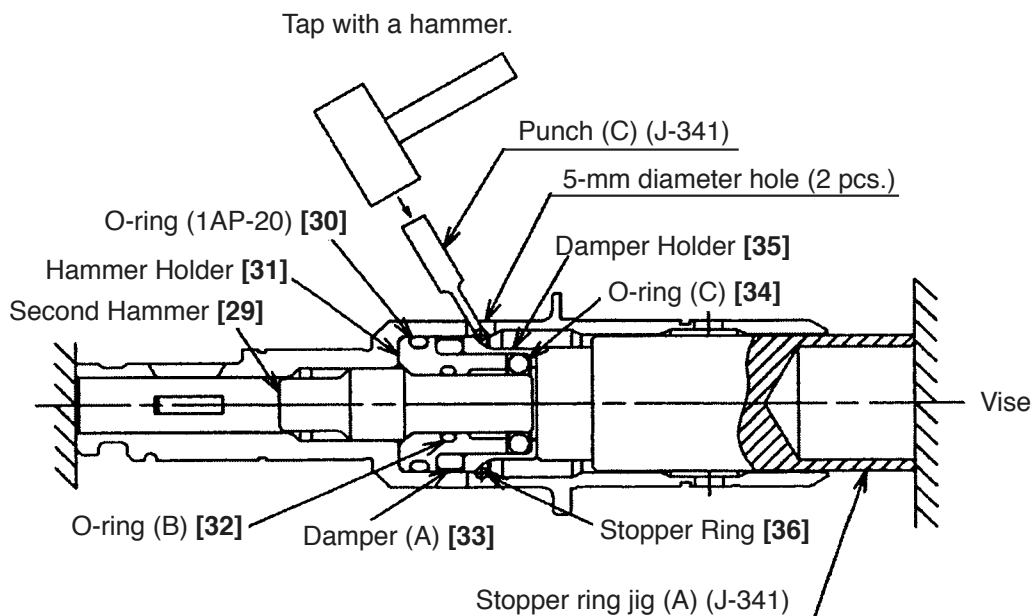

Fig. 19
(5) Removal of the cylinder and the second hammer
Remove the Stopper Ring [36] from the inside diameter portion of the Cylinder [24]. Then the Second Hammer [29], O-ring (1AP-20) [30], Hammer Holder [31], O-ring (B) [32], Damper (A) [33], O-ring (C) [34] and Damper Holder [35] can be removed from the Cylinder [24]. As shown in Fig. 19, insert the no-hole side of stopper ring jig (A) (J-341) into the Cylinder [24] until it contacts the end surface of the Damper Holder [35]. Hold the Cylinder [24] and the end surface of stopper ring jig (A) (J-341) with a vise, and compress Damper (A) [33] (it moves a little when the Stopper Ring [36] is pressed with punch (C) (J-341)). Insert punch (C) (J-341) into the 5-mm diameter hole (2 places) in the Cylinder [24] and tap the outside of the Stopper Ring [36] until the Stopper Ring [36] cannot be seen from the 5-mm diameter hole (2 places) to remove the Stopper Ring [36] from the groove of the inside diameter portion of the Cylinder [24]. Then remove the Cylinder [24] from the vise and pull out the Stopper Ring [36] from the inside diameter portion of the Cylinder [24] with ring puller jig (B) (J-341) being careful not to pop out the Stopper Ring [36]. At reassembly, replace the Stopper Ring [36] with new one as the removed Stopper Ring [36] is deformed. To prevent idle hammering, also replace O-ring (C) [34] with new one at reassembly.